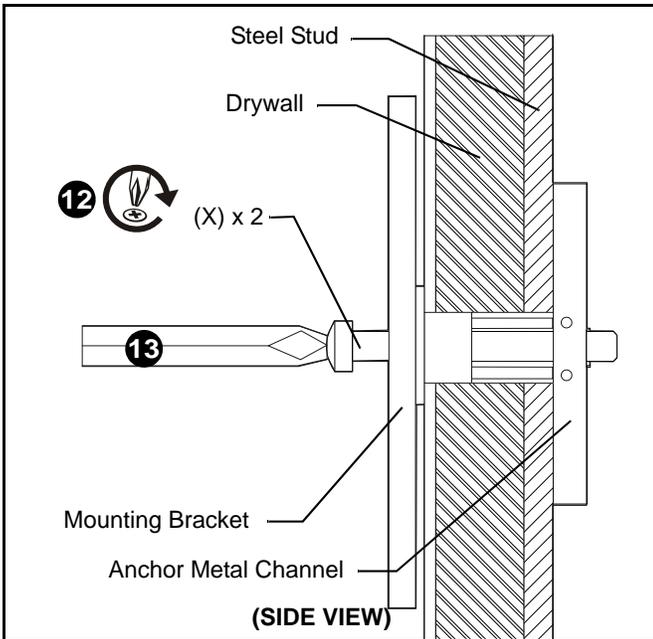

Figure 12
11. Place mounting bracket over anchors and align mounting holes in display mount with holes in anchors. (See Figure 12)
12. Insert 1/4-20 x 1-3/4" Phillips pan head screw (X) into mounting hole on mounting bracket and into anchor (K) and tighten until flush against mounting bracket. DO NOT overtighten! (See Figure 12)